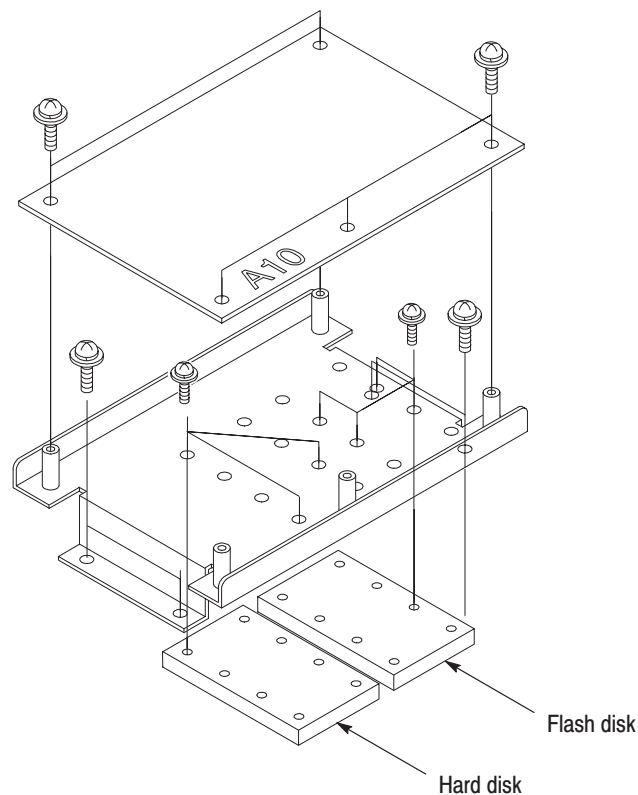

Figure 6-21: Hard disk and flash disk removal
5. Using a screwdriver with a Phillips #2 tip, remove the four screws securing the hard disk and flash disk bracket to the chassis. See Figure 6-21.